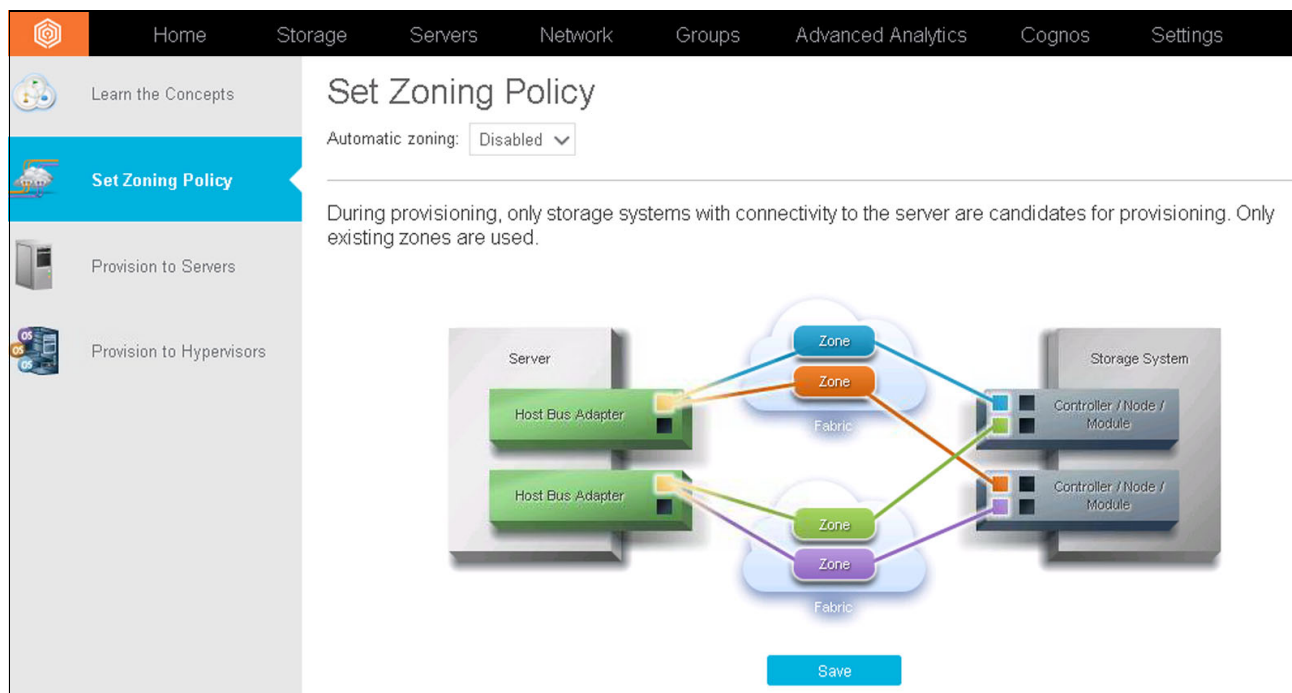

Figure 6-36 Setting the zoning policy
1. Select **Advanced Analytics** on the IBM Spectrum Control top menu, then select **Provisioning**. The provisioning dialog will appear as shown in Figure 6-36.